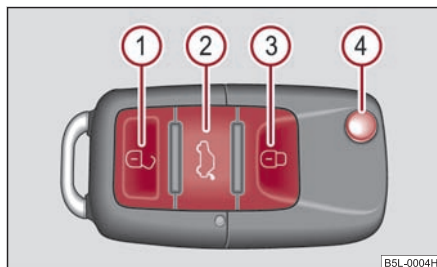

Fig. 41 Remote control key
- Press button ② for about 1 second ⇒ fig. 41.